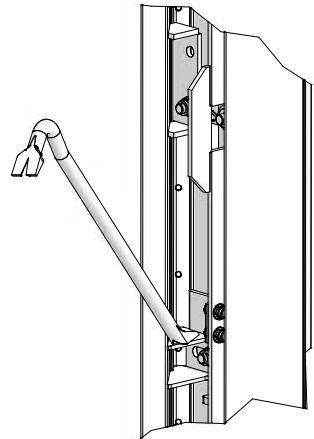
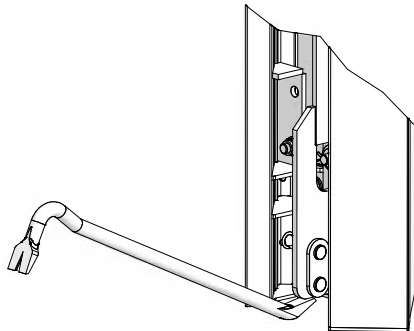

Fig. 36.4 B
Fig. 36.3 A
4. Activate the stripping corner with a crowbar. The bell-crank lever is pushed upwards using the crowbar. The crowbar can be applied at the bottom at position A (Fig. 36.3 A) or in the middle at position B (Fig. 36.4 B). This breaks the bond between the formwork facing and the concrete without much effort.